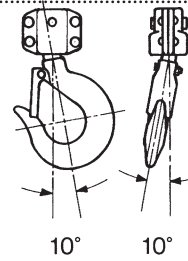

Fig. 3
8. If the vertical angle at the neck of the bottom or top hook reaches 10°, replace the hook. See Fig. 3.